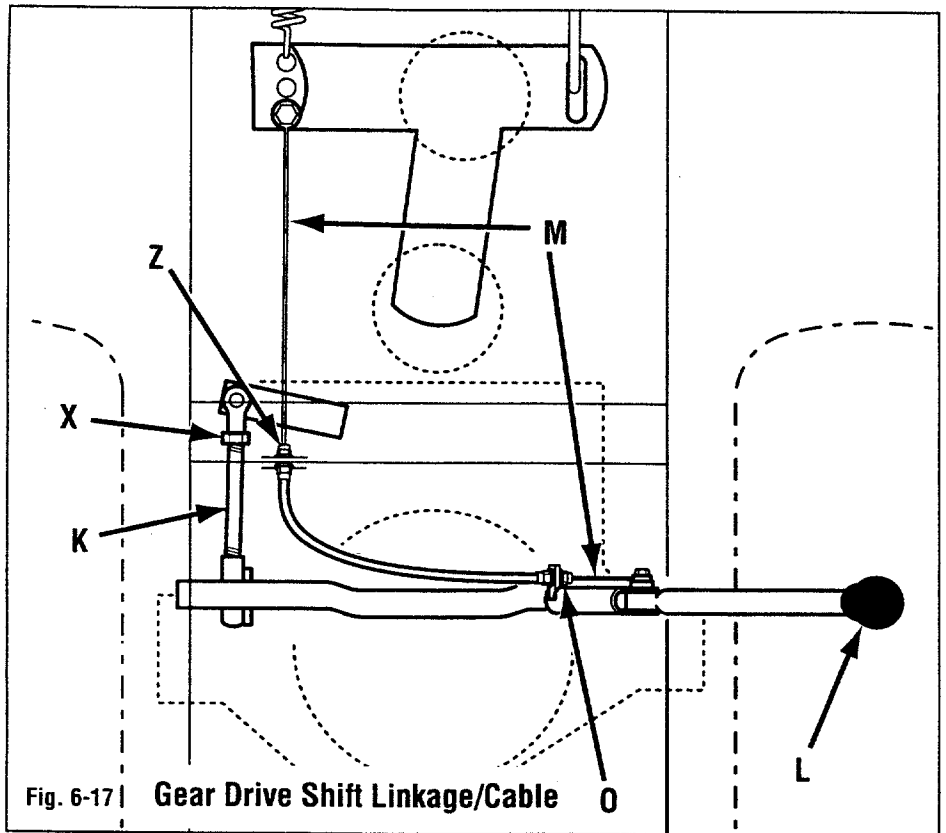
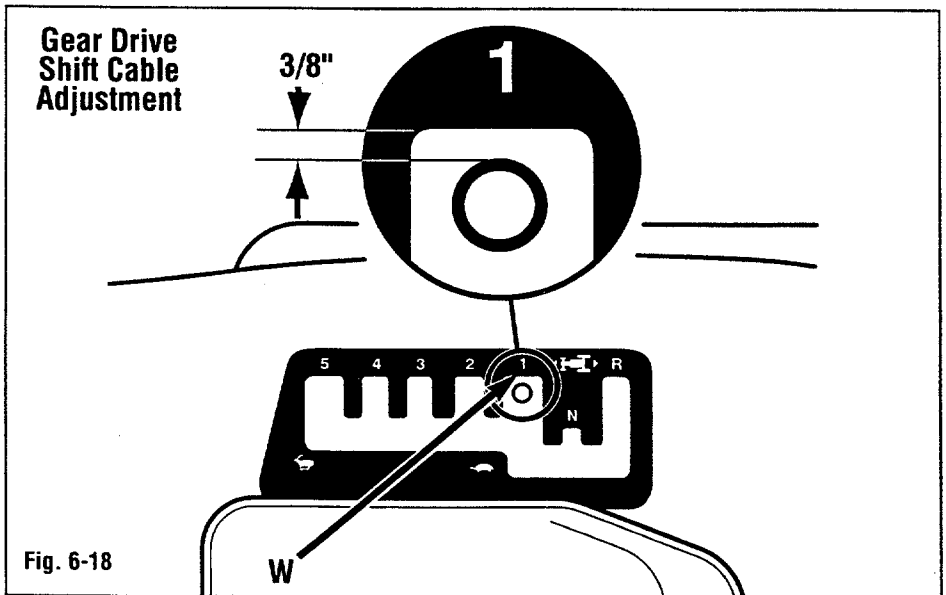

Fig. 6-17 | Gear Drive Shift Linkage/Cable
Fig. 6-18
- Loosen jam nut (X, Fig. 6-17). Rotate shift rod (K) 1 to 2 turns. Check adjustment. Repeat as necessary. Tighten jam nut (X).
Place gear shift lever into "1st" gear position. Gear shift lever should be resting on outside quadrant edge (W, Fig. 6-18). Pull gear shift lever (L, Fig. 6-17) in toward center of unit until slack in shift cable (M, Fig. 6-17) is taken up. Adjust shift cable at (Z & O, Fig. 6-17) until a 3/8" gap between outside of shift lever and shift quadrant (Fig. 6-18) exists.